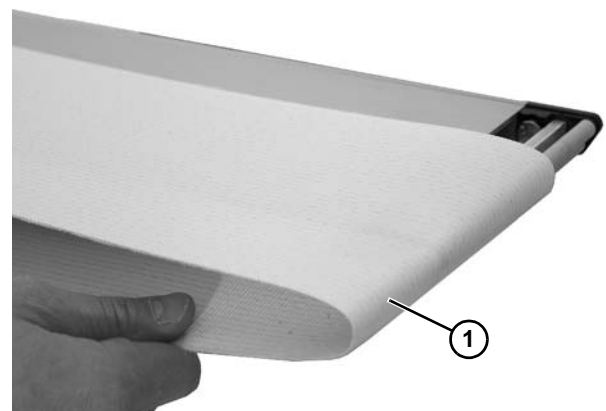

Figure 30
4. Remove belt (Figure 30, item 1) from conveyor.